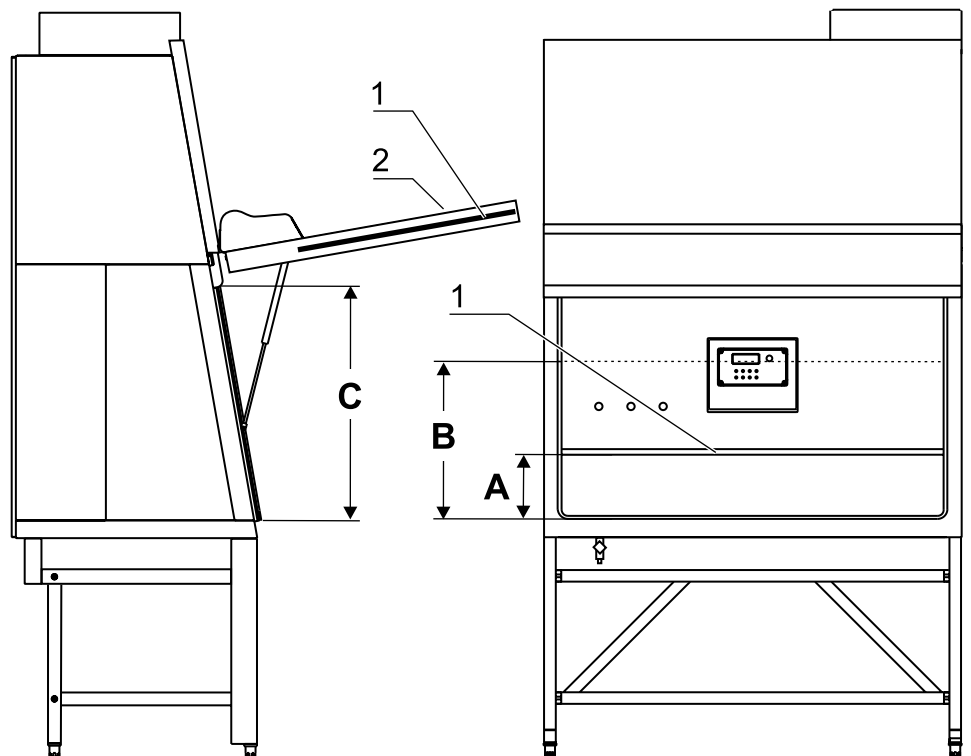

Fig. 7
- **Fig. 7:** Manual opening of the front cover [2] allows access to the complete sample chamber width with an opening height **C**. It is generally needed for decontamination and introduction of larger accessories.